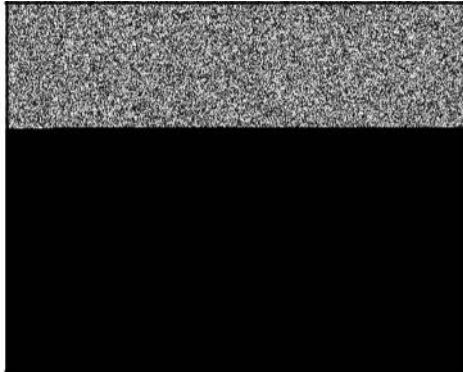

Figure 17
1. Insert RED test lead (**A**, Figure 17) into 10 Amp receptacle in meter.